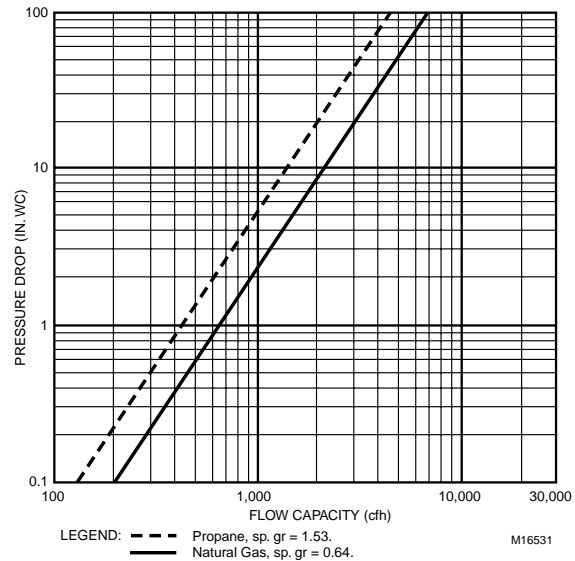

Fig. 1. Flow curves for V4297A1005 SSOV with 3/4 in. (19 mm) pipe adapter.
**Flow Curves:** See Table 1 and Fig. 1 through 8.